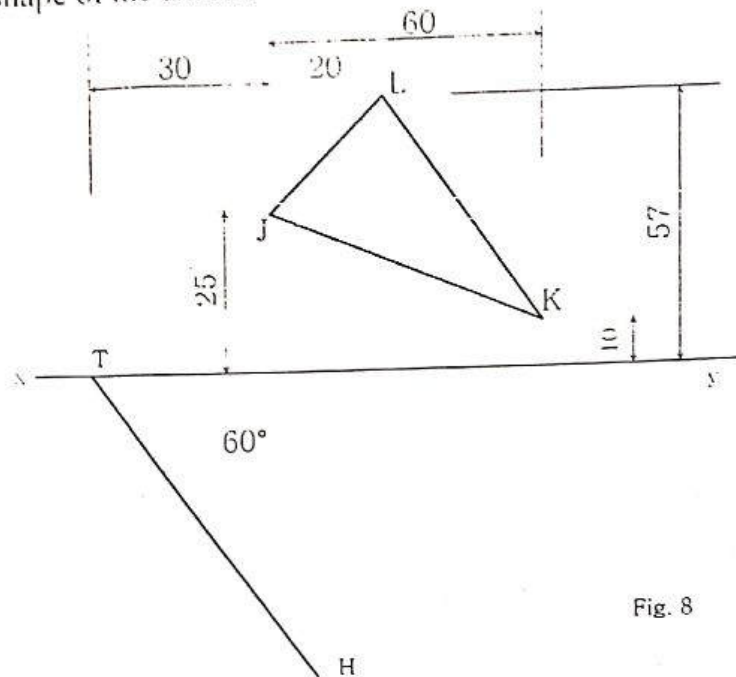

Fig. 8
7. An elevation JKL of a lamina is given in fig. 8. The horizontal trace (H.T.) of the oblique plane in which the line rests is also given, while the true inclination of the plane to the horizontal plane (H.P.) is  $49^\circ$ . Construct